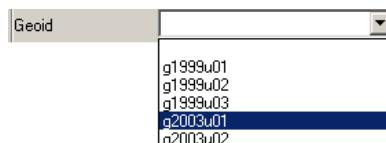

Figure 3-39. Select Geoid Mode
- Select the geoid model (Figure 3-39).